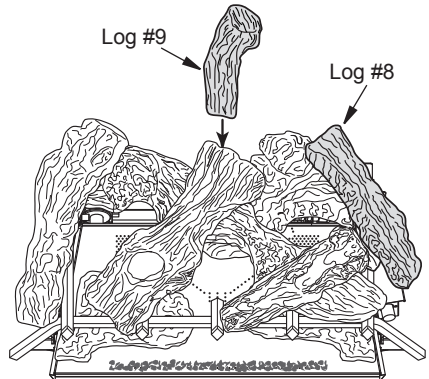
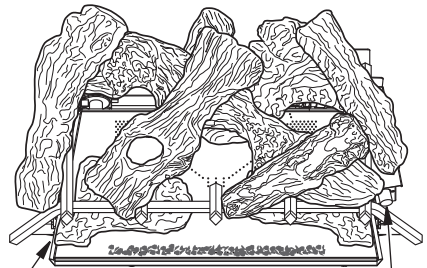

Figure 24 - Installing Logs #8 and #9
Figure 26 - Ignitor Button and Control Knob Locations
7. Insert the pin on the bottom of log #8 into the hole in log #3. Rest the front edge onto log #4 (see Figure 24).
8. Turn log #9 as shown in Figure 26. Insert log #9 in front of rear log bracket on grate base, inserting pin on the rear of log, into slot on rear log bracket (see Figure 24).